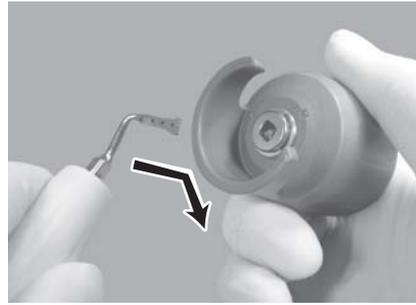

Fig.20
- 2) Matching the square shapes of the Tip and the hole of the Tip Wrench, insert the Tip into the hole (Fig. 20).